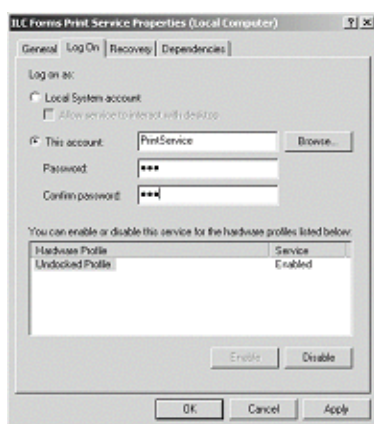

Figure 6-19: Component Service Properties Window
- Right click ILC forms print service and the select Properties. The properties window will appear (Figure 6-19).